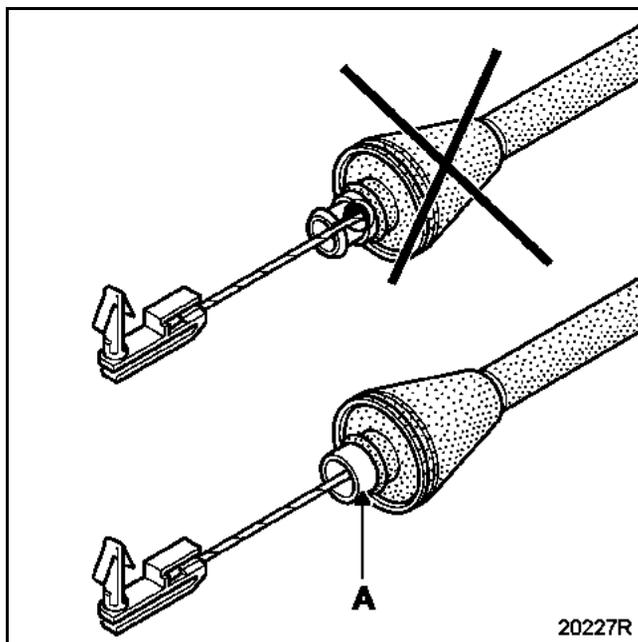

Fig. 1
- Replace the accelerator cable with a new accelerator cable (A) (Fig. 1).